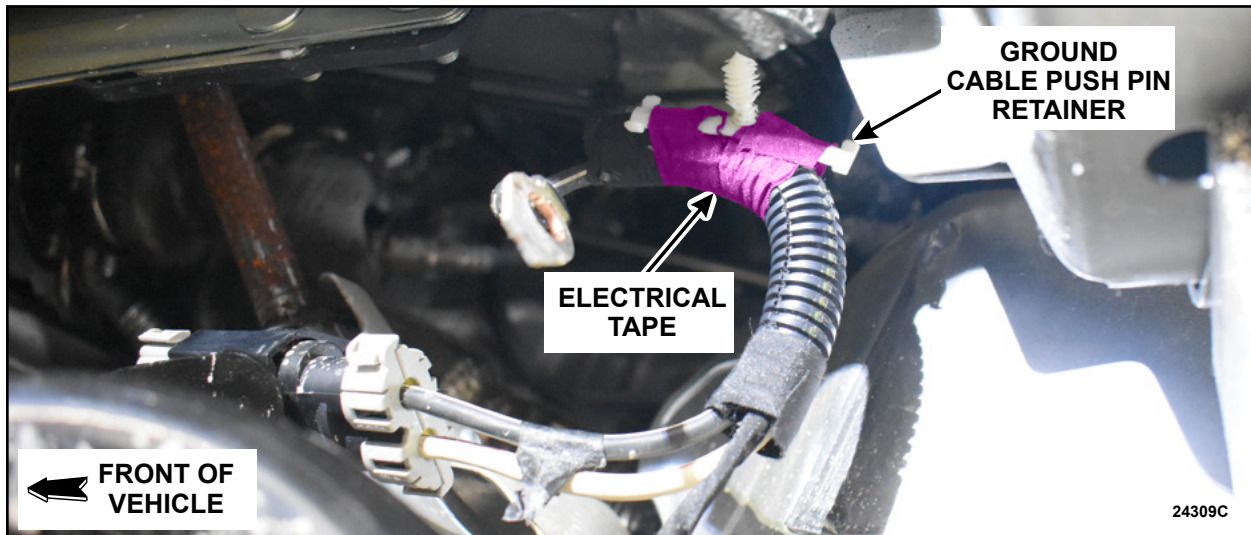

FIGURE 15
18. Install the ground cable push pin retainer. See Figure 15.